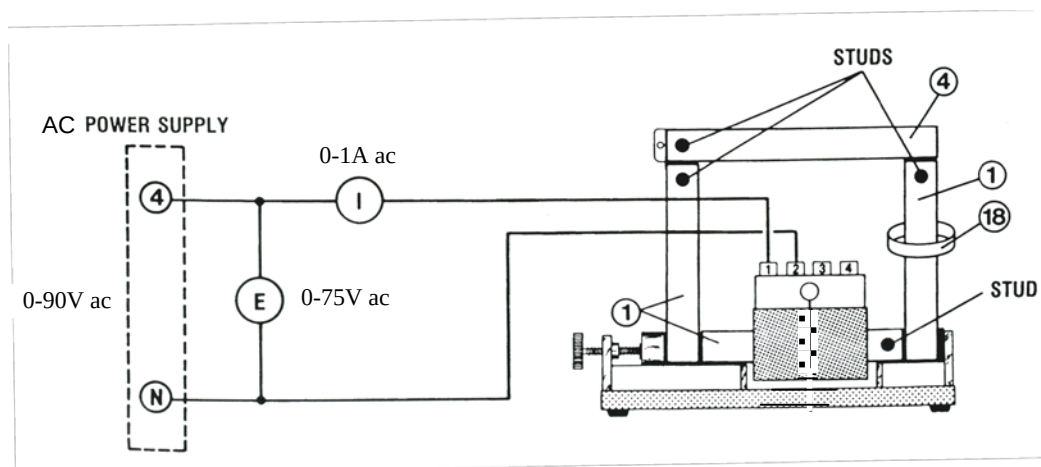

Fig. 6 Circuit used to observe the effect of eddy current in a metallic ring
9. Complete the magnetic circuit, as shown in Fig. 6, using a 178 mm laminated bar to connect the upper end of the vertical bars, and observe the height of the aluminium ring around the right bar when current is increased slowly to 0.9 A ac for a short time.